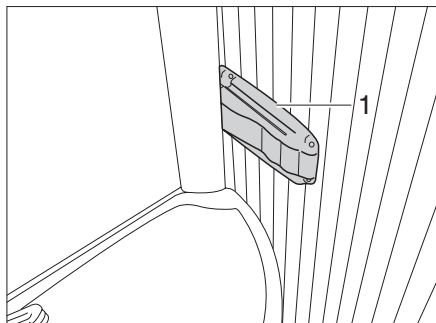

Fig. 182 Vario toilet, locking the shower wall
- Press the locking mechanism (Fig. 182,1) on the right-hand side of the washbasin edge and gently pull on the wash basin. The wash basin moves forwards with the rear wall.